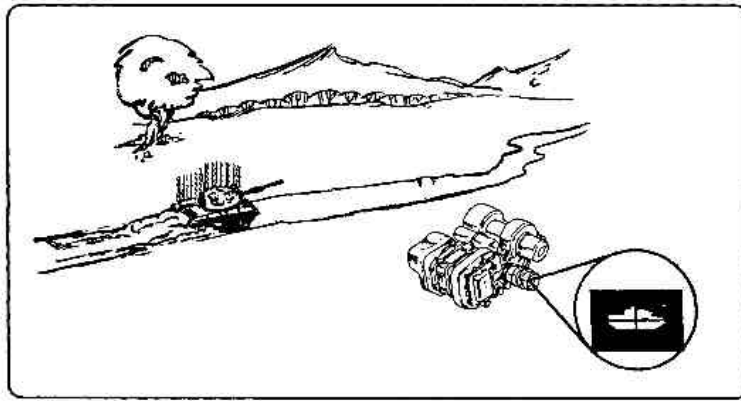

Figure 1-6. Night tracker senses infrared (heat).
(1) The AN/TAS-5 has a 4-power magnification and the FOV is 3.4 by 6.8 degrees. The night tracker is a passive device that receives heat emissions (infrared energy) from a target area (Figure 1-6), and converts the infrared energy to electrical signals and then to visible light. It displays the visible light as a real-time scene for viewing by the gunner. Objects that are warmer than the ambient temperature appear in the night tracker as varying shades of red; objects cooler than ambient temperature appear in the nightsight as black. The night tracker is a larger and heavier tracker than the day tracker, but performs the same functions. The tracker helps the gunner to locate, identify, and track a target. The infrared tracker monitors the missile's flight and provides the commands needed to keep the missile on the gunner's LOS.